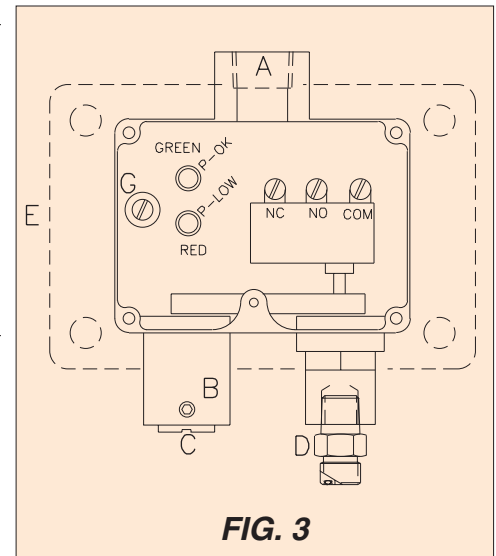

FIG. 3
2. Supply power to the 90.421.1 with 120 VAC through Port A (Fig. 3).
1. Link the 90.421.1 with the system or known pressure source through the 1/4 NPT Port D (Fig. 3).
3. Loosen Set Screw B (Fig. 3) so that Adjust Screw C can be freely operated.